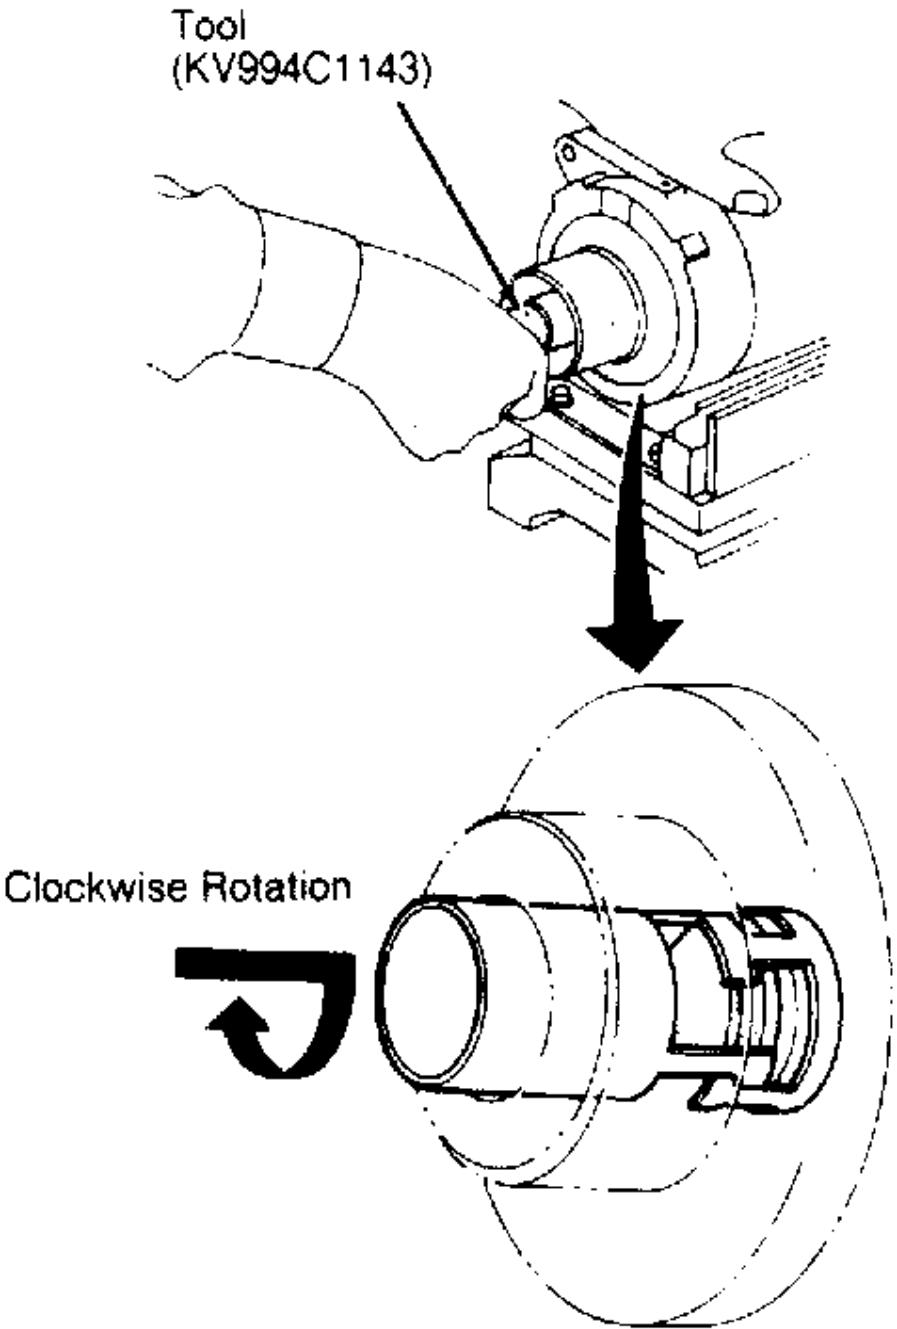

Fig. 11: Hitachi 6-Cylinder Compressor Shaft Seal Removal
3. Insert Adapter (KV994C1552) into hole in middle of blind cover at low pressure side of compressor. Connect Pressurizer (KV994C1552) to can of R-12 refrigerant. Wrap a rag around compressor shaft. Apply pressure of 28-71 psi (2-5 kg/cm²) at low pressure (suction) service valve of compressor. Catch shaft seal seat in rag. See Fig. 11 .
4. Insert shaft seal Remover/Installer (KV994C1143) through the open end of front cover. Depress carbon seal and hook tool at case projection of shaft seal. Slowly pull out to remove shaft seal. See Fig. 11 .